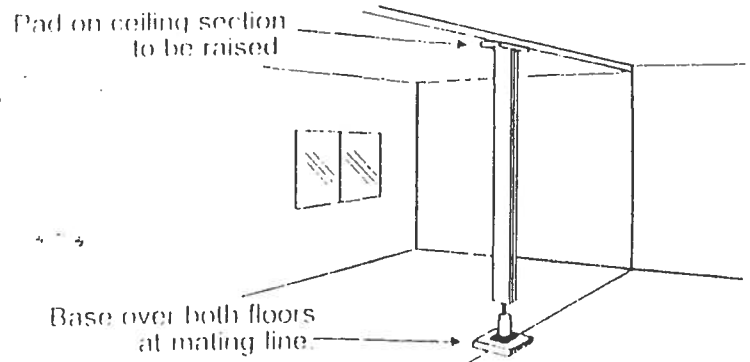

FIG. 5-8
7. Prior to interconnecting the ridge beam halves, examine the ridge beam ends. Should there be a slight misalignment, it can be eliminated by placing a jack under the low side of the main beam on one half and use the jack to raise the beam. The alignment can be held by properly bolting or lag screwing the beam halves together. See Fig. 5-8.